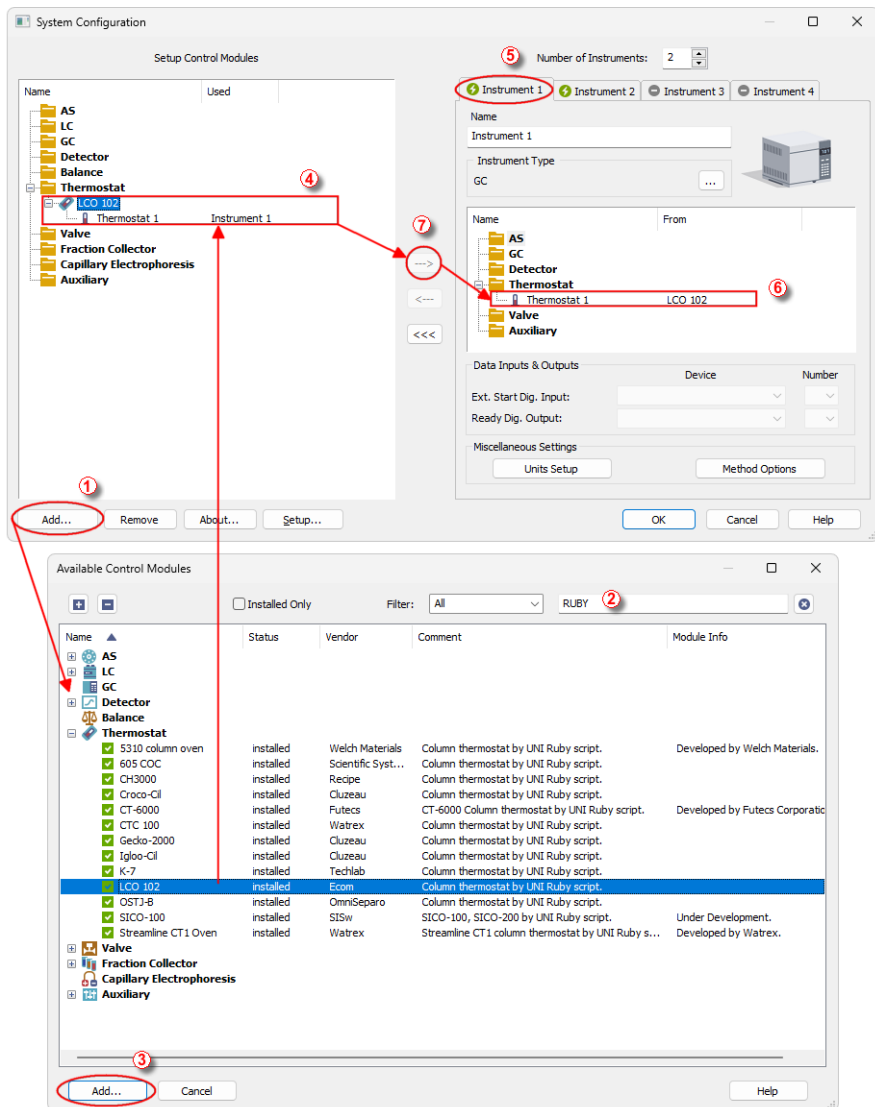

Fig. 3: How to Add Ecom LCO 102 module
- Press the **Add** button (① on **Fig. 3** on pg. 4.) to invoke the *Available Control Modules* dialog.
- You can specify the search filter (②) to simplify the finding of the driver.
- Select the correct item and press the **Add** (③ on **Fig. 3** on pg. 4.) button. Each device with already created UNI profile should have its own item named accordingly in the *Available Control Modules* dialog.